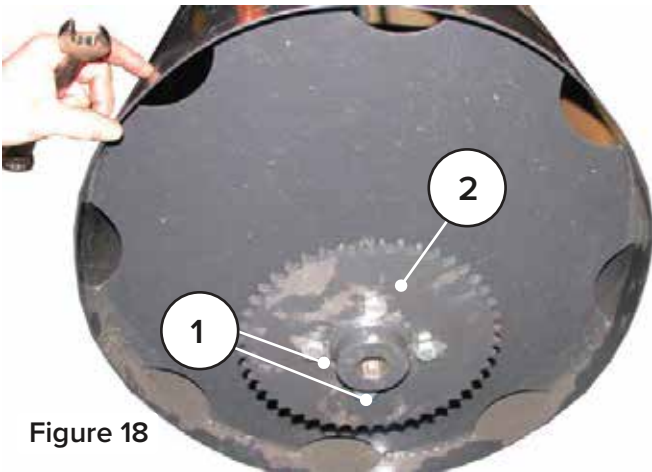

Figure 18
7. Loosen the two set screws (Item 1) and remove the broken shaft from the sprocket. [Figure 18]
NOTE: If the broken shaft is unable to be removed, remove the four mounting bolts (Item 2) to remove the sprocket from the spool. The broken shaft will then be able to be driven out from the sprocket hub. Reinstall the sprocket on the spool and tighten the mounting bolts. [Figure 18]